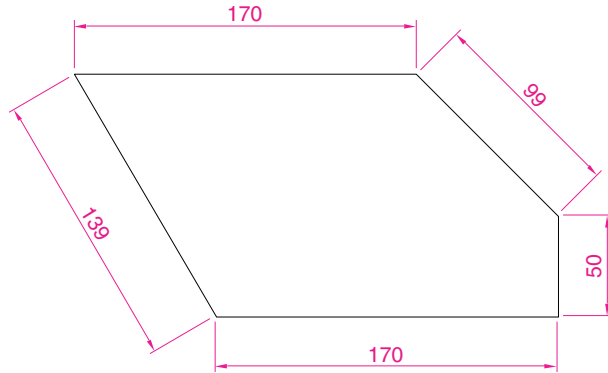

Fig. 6.5 Second example – **Aligned** dimension
Second example – Aligned dimension (Fig. 6.5)
1. Construct the outline in Fig. 6.5 using the **Line** tool.